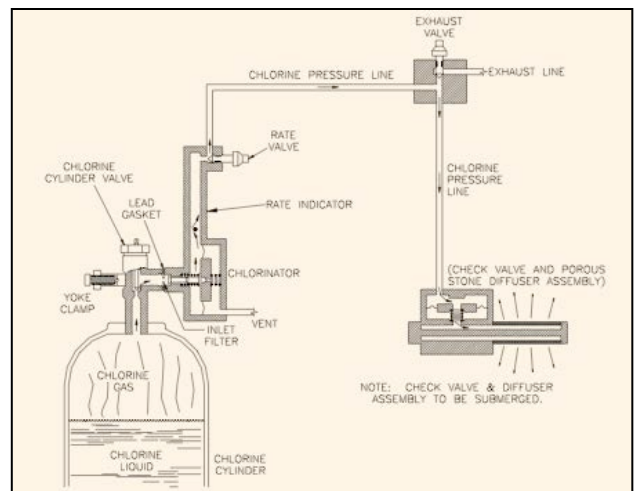

Figure 1
Chlorine gas at cylinder pressure enters the regulator through the inlet valve and filter assembly where the pressure is reduced and controlled to approximately 20 psig (1.4 bar). The gas then moves through the inlet pressure-regulating valve, chlorine gas flowmeter and manually controlled rate valve to the check valve/diffuser assembly. The pressure causes the check valve to open, and gas enters the water or process fluid through a porous stone diffuser or fine spray diffuser. (See Figure 1) A pressure relief valve is contained within the chlorinator to prevent excessive pressure build-up in the system. A manual exhaust valve, installed in the pressure line between the chlorinator and the check valve is used to exhaust the pressure from the system prior to removing the chlorinator from the cylinder. Both the relief valve and pressure exhaust valve must be relieved to a safe place.
2.2 Pressure Regulator Mounting - (See Figure 1)
2.3 Check Valve-Diffuser Assembly Installation (See Figure 1)